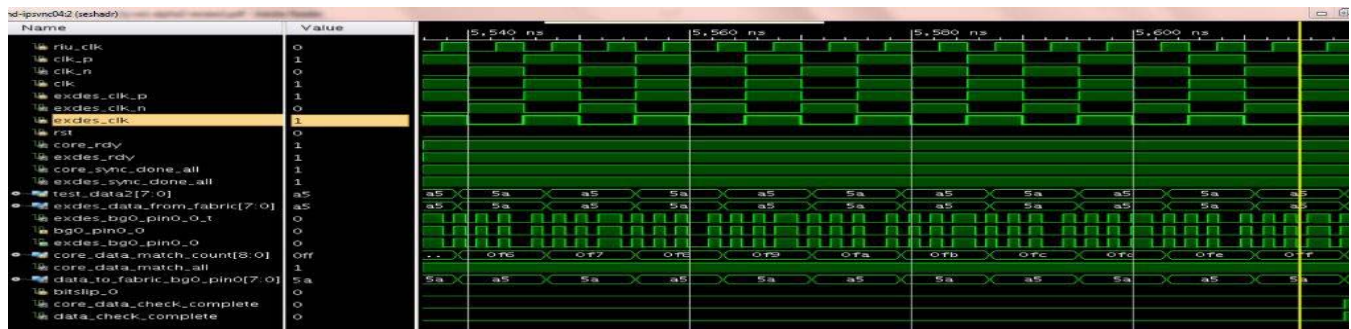

Figure 6-1: Test Bench Waveform
- If an RX and TX pattern matches, the test bench sends a message for the successful test completion, as shown in Figure 6-1. Otherwise, it waits for 16,000 cycles of input clock and sends a test failure message.